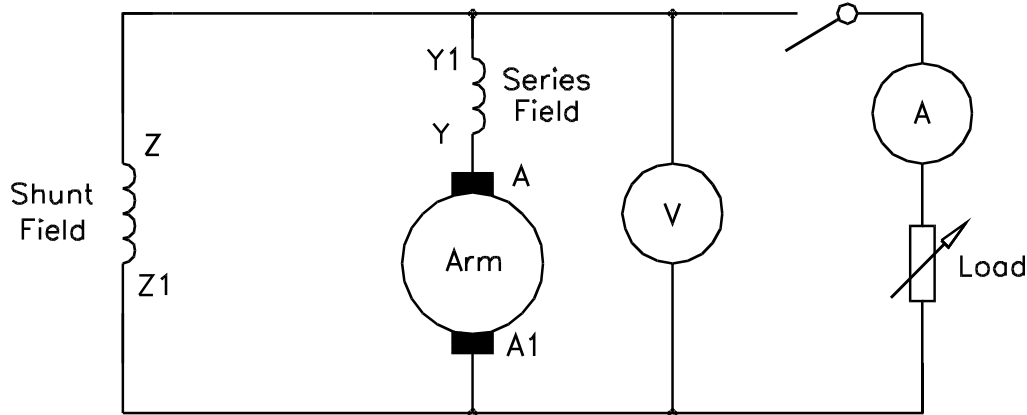

Figure 58
42. The compound generator combines the characteristics of the shunt and series generators. The field windings consist of a shunt field and a series field, wound on the same pole piece as shown in Figure 58.